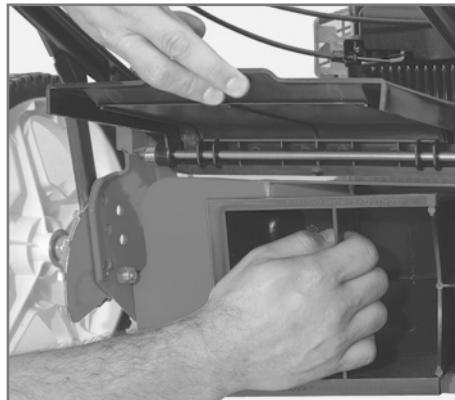

Figure 10
- ✓ In order to use the grass recycling deflector, with the machine off, lift the rear cover and assemble the deflector in the opening of the grass outlet, as shown in Figure 10.